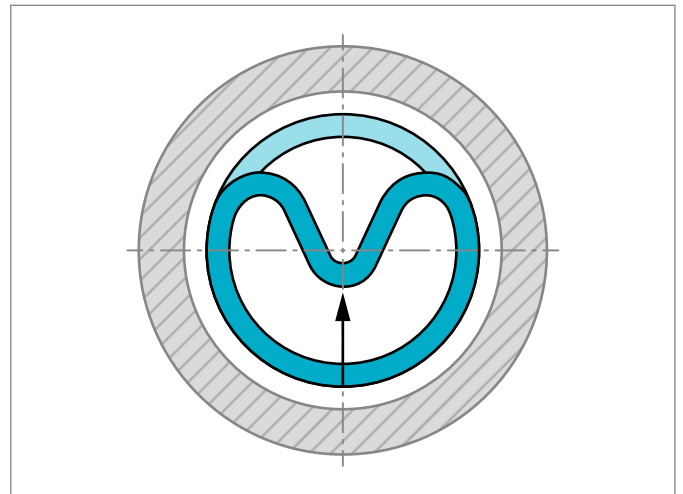
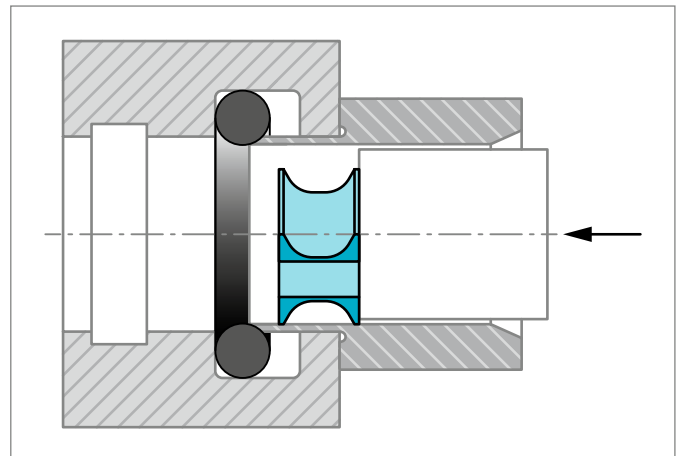

Figure 13: Inserting the seal ring into the closed groove
Figure 14: Insertion with an inserter tube
- Place the seal ring in compressed form into the groove and push against the O-Ring in the direction of the arrow in the groove by hand - see Figure 13. For diameters smaller than 30 mm an inserter tube is recommended - see Figure 14.